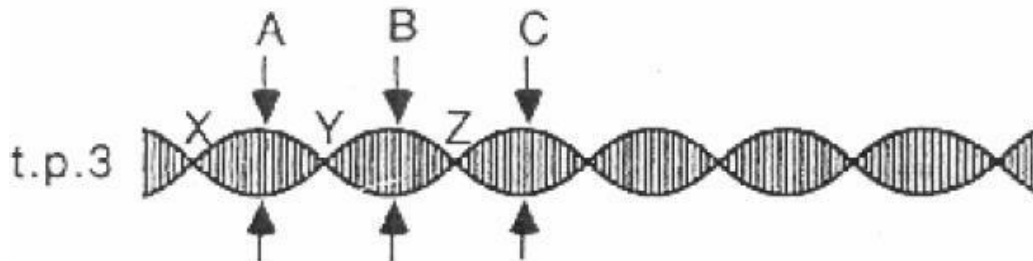

Figure 4: Output of BPF
4. Now turn the balance pot in the balanced modulator & band pass filter circuit 1 block, until the signal at TP3 is as shown in figure 4. The balance pot varies the amount of the 1 MHz carrier component, which is passed from the modulator's output. By adjusting the pot until the peaks of the waveform (A, B, C and so on) have the same amplitude, we are removing the carrier component altogether. We say that the carrier has been 'balanced out' (or 'suppressed') to leave only the two sidebands. The waveform at TP3 is known as a double-side suppressed carrier (DSBSC) waveform.